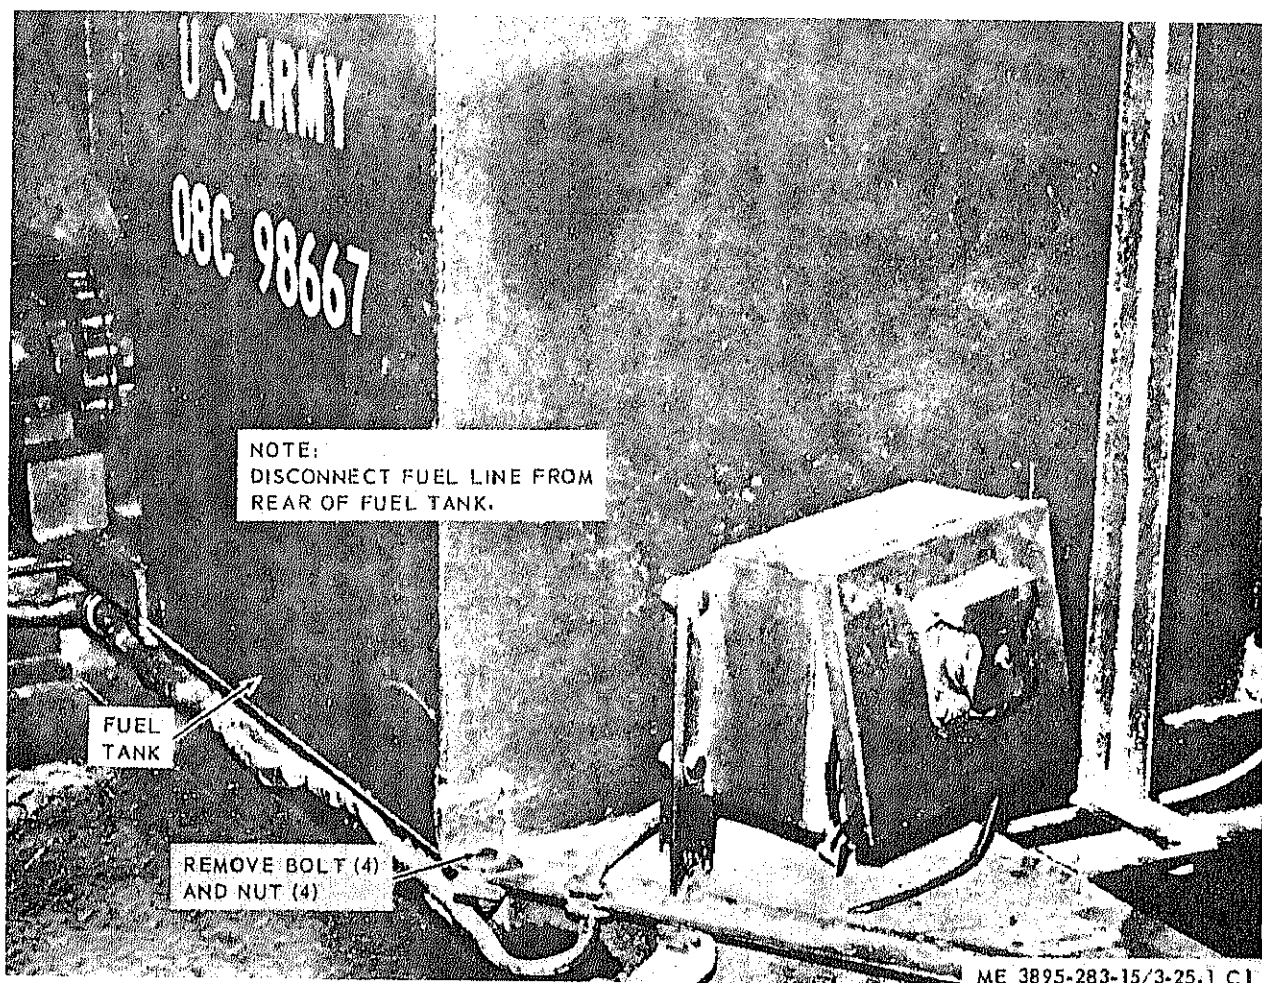

Figure 3-25.1. Fuel tank, removal and installation.
Page 3-19. Paragraph 3-47.1 and figure 3-25.1 are added after paragraph 3-47.
a. Removal. Remove the fuel tank as illustrated in figure 3-25.1.
b. Installation. Install fuel tank as illustrated in figure 3-25.1.